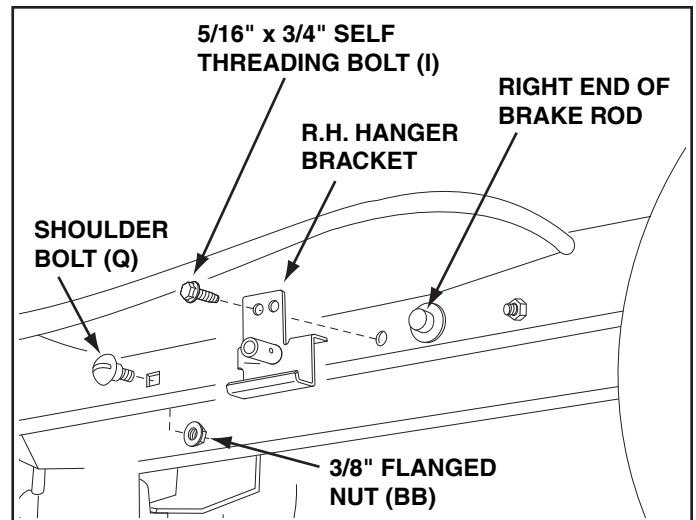

FIGURE 6 RIGHT SIDE VIEW
STEP 6: (SEE FIGURE 6)
- Attach the R.H. Hanger Bracket to the hole using a 5/16" x 3/4" self threading bolt (I).
- Install a round head shoulder bolt (Q) into the hole that is 9-1/2" to the rear of the bolt you just installed. Secure it with a 3/8" flange nut (BB) on the inside of the frame.